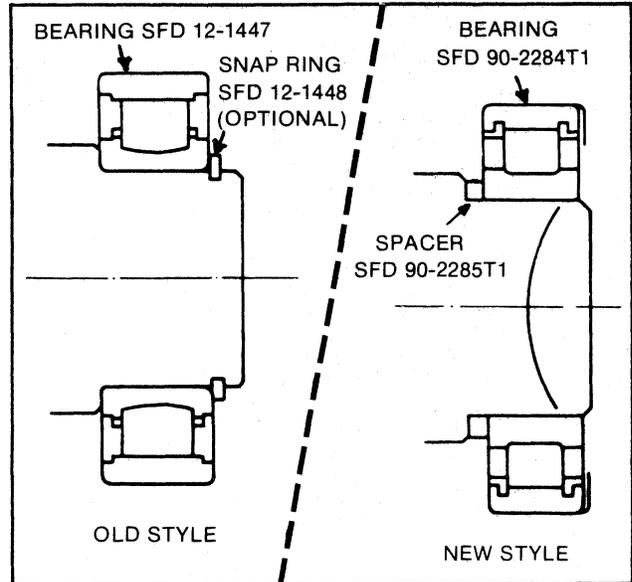

Figure 1
***NOTE:** Bearing, SFD 90-2284T1 MUST be used with Spacer, SFD 90-2285T1. Prior Countershaft Bearing, SFD 12-1447 will interchange, but Spacer, SFD 90-2285T1 MUST NOT be used. The rear countershaft snap ring is optional and not required. See Figure 1.